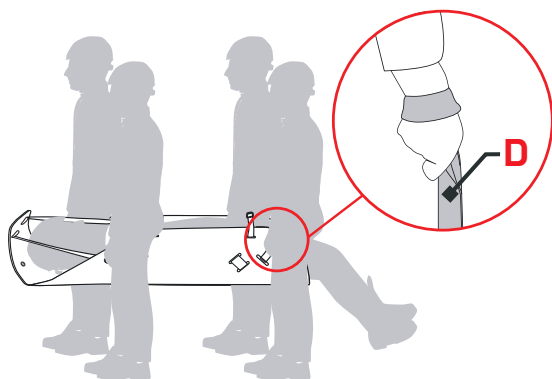
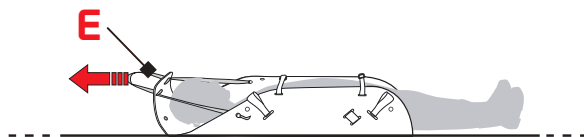
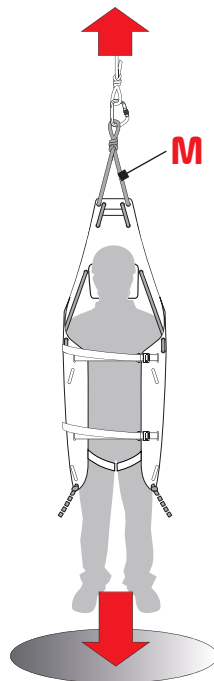

Fig. 3
Fig. 4
Fig. 5
- 1:3 = operating load: 150 Kg for manual lifting using the handles (D) - (fig. 3)
- 1:3 = operating load: 150 Kg for dragging by hand using the sling (E) - (fig. 4)
- 1:10 = operating load: 150 Kg for lifting/lowering with rescue devices using the rope (M) (fig. 5).
The **“HALF ROLLY”** rescue sheet is suitable for lifting and transporting the patient using the side handles (fig. 3), dragging them using the sling (fig. 4), and lifting/lowering them vertically using the static rope (fig. 5).